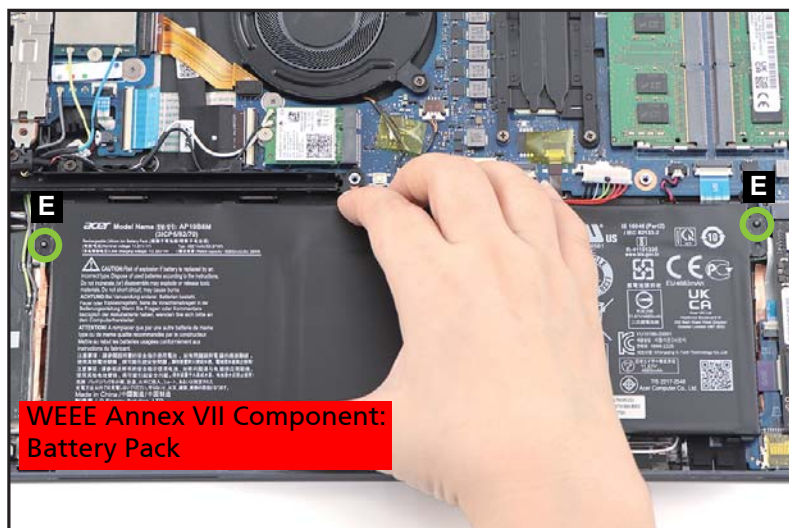

Figure 1-9. Battery Pack Removal
5. Slightly lift the upper side of the battery pack to release it from the guide pins (E). Then remove the battery pack from the system (Figure 1-9).